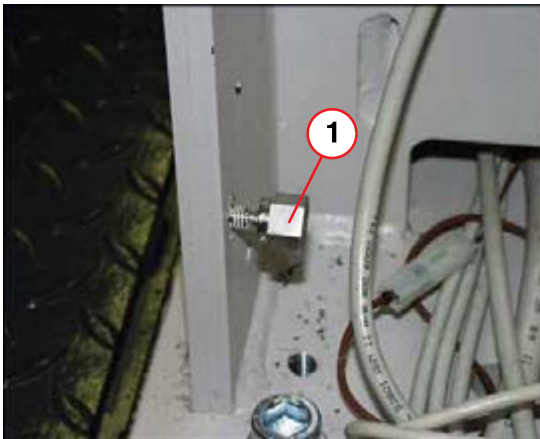

Fig. 8: Unit base
- Screw the supplied bolts (1/Fig. 8 / p. 14) into the unit base.